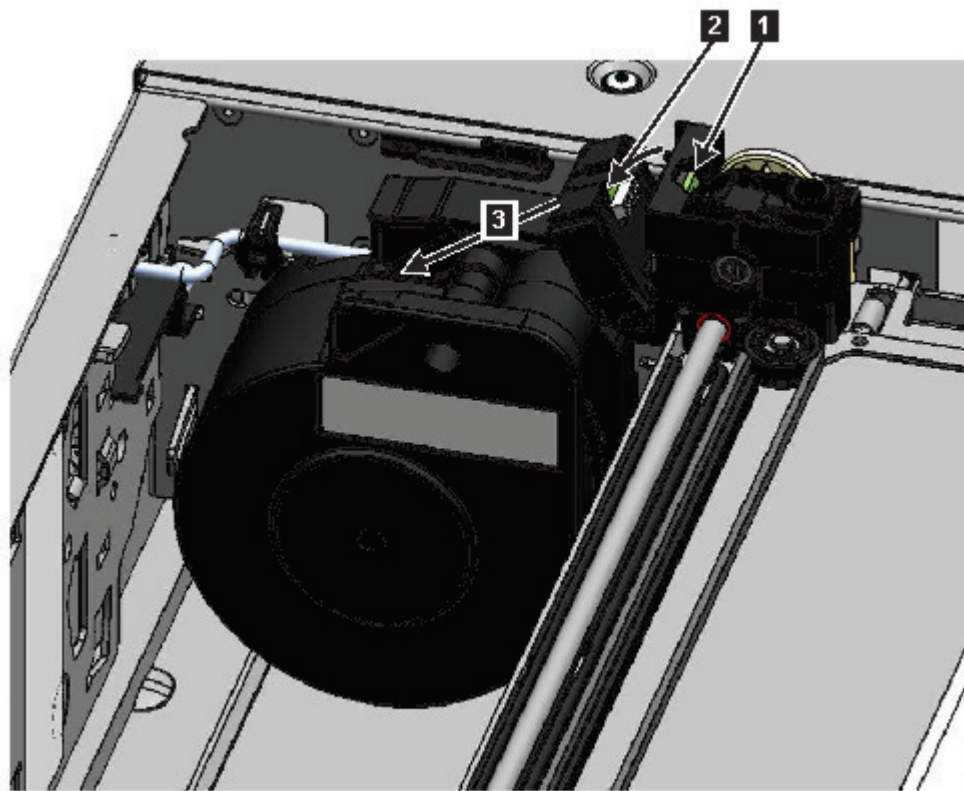

Figure 74. Unlocking the spooling cable and placing it in its cradle
7. On the top of the accessor where the spooling cable is attached, press down on the latch (1 in Figure 74 on page 138), then tilt out the piece that holds the spooling cable (2).
8. Lift the spooling cable from the accessor and place it in its cradle at the top of the spooling mechanism (3 in Figure 74 on page 138).